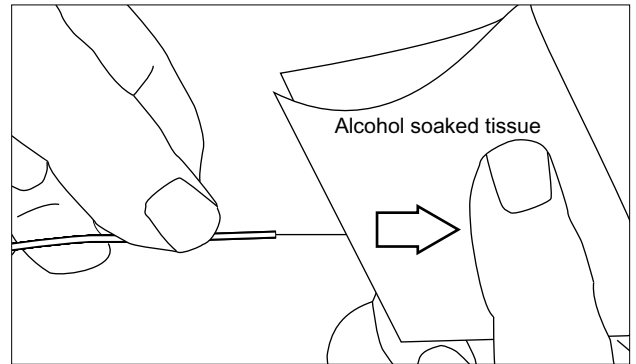

Figure 19 — Cleaning a fiber
Step 9: Using a lint-free tissue soaked with alcohol, clean the stripped fiber (Figure 19). Avoid handling the cleaned area of fiber.